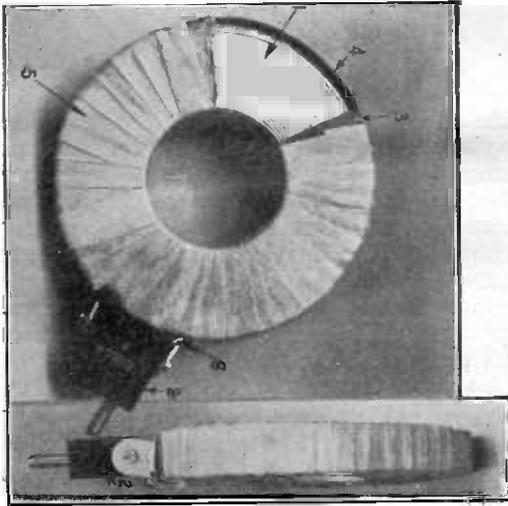

Fig. 1. Photograph showing construction of a Rimar plug-in coil.
**A** TYPE of coil which is rather different in construction to those previously described\* is illustrated in Fig. 1. This coil has two distinct windings which are connected in series. Each consists of a flat spiral, that is, they are only one turn thick. The windings are held in place with separators specially treated to keep the losses low.
Referring to the figure: 1 is one of the windings; 2, the ebonite plug carrying contacts joined with the ends of the coil; 3, a separator and an outer covering; 5, the outer tape covering; and 6 is one of the ends of the coil. Winding coils in this way ensures a small internal capacity. The voltage between any two points where the turns touch is that due to two layers only, consequently the power loss is low.